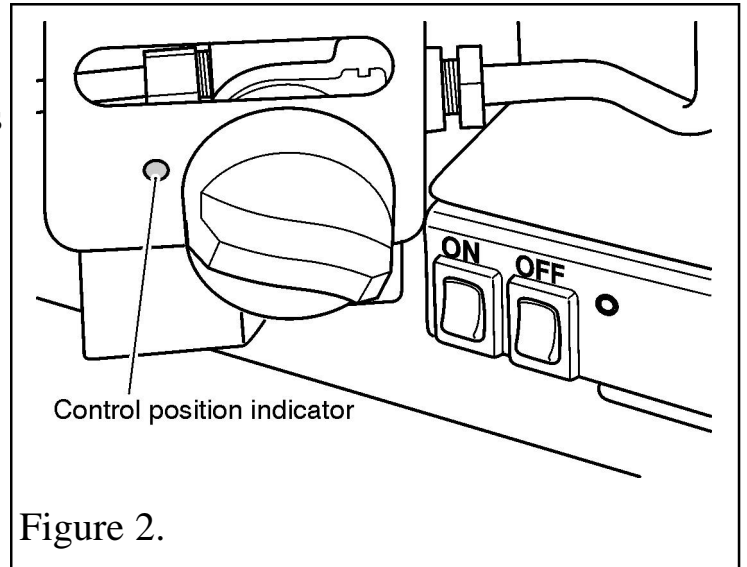

Figure 2.
- The controls are shown in figure 2.